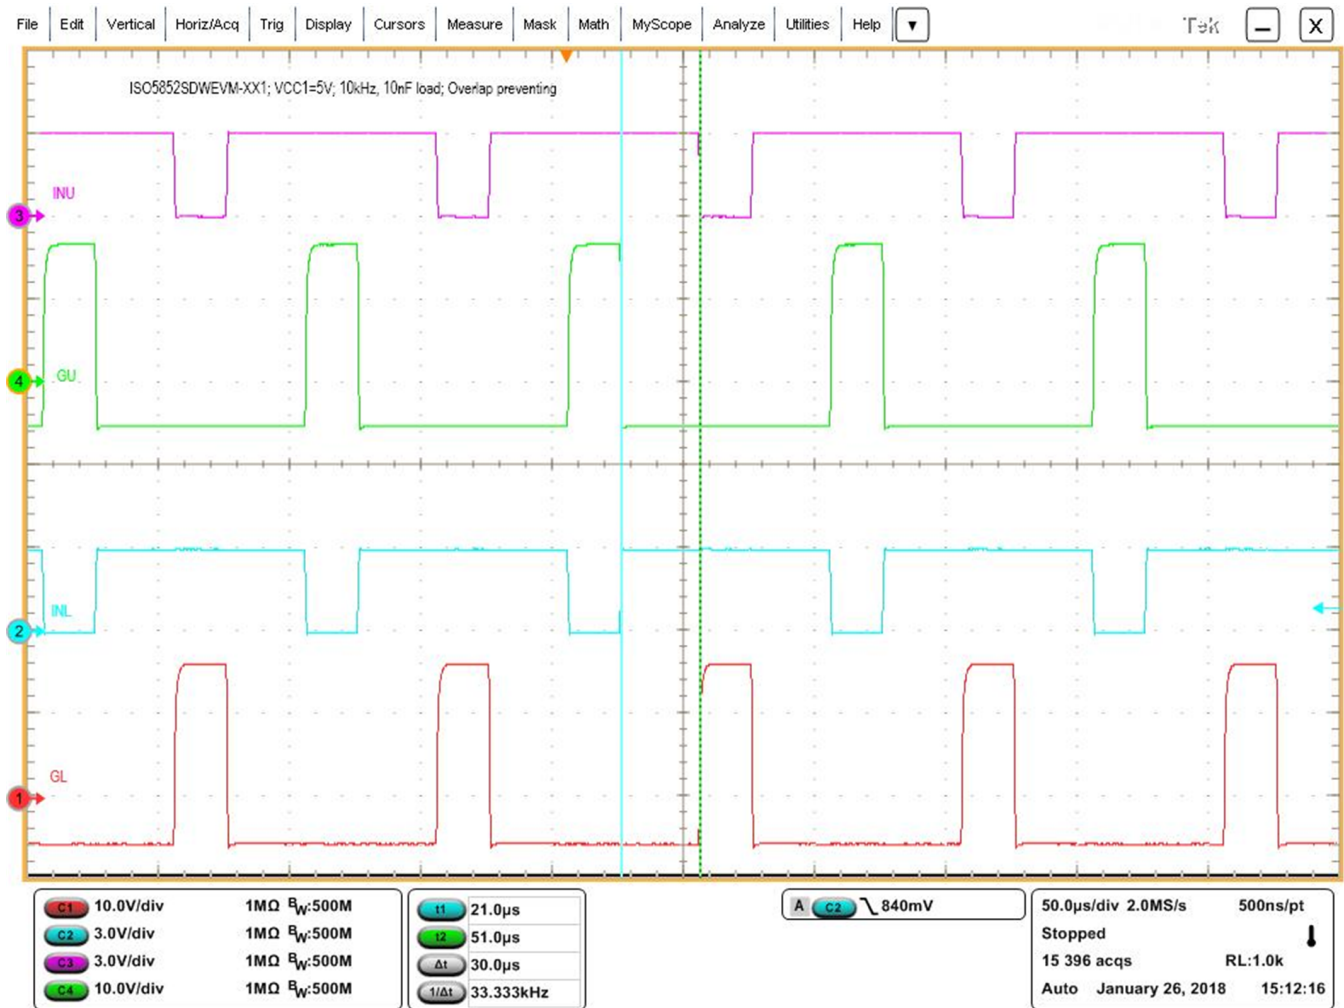

Figure 6. Major Input and Output Waveforms Using Output Overlapping Prevention Feature
5. Compare waveforms with typical screen shot showed in Figure 6